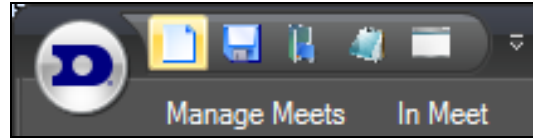

Figure 145: Quick Access Toolbar with Buttons
8. Click **OK** to save the Quick Access Toolbar buttons (*Figure 145*).